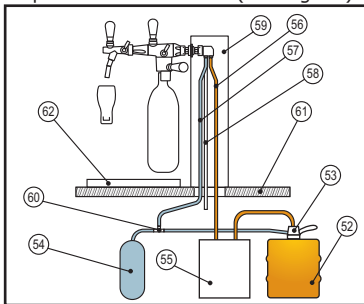
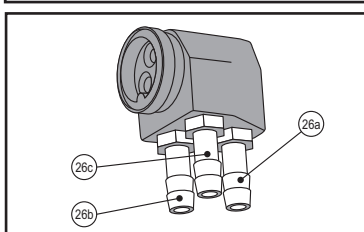

Fig.1a Equipment required for the PEGAS NovoTap installation
Fig.1b Tee adapter for connecting hoses to the PEGAS NovoTap
Before mounting the device to a beer tower it is necessary to check whether hoses can be freely connected to nipples (26) of tee adapter (44) provided that the tee adapter is located strictly vertically and looks downwards (hoses shall be connected from below). If the hoses can not be freely connected, it is necessary to replace the tee adapter with a different one (meant for side/rear connection of hoses). A drip tray (62) shall be provided on the table. (See Fig. 1a).
The following equipment is required for the device connection (See Fig. 1a):
The device shall be assembled, installed and connected as follows (numbers are given as per Assembling diagram Fig. 1a, Fig. 1b):
1) Put hoses for beer supply (56), CO₂ supply (57) and drainage (58) inside a beer tower as shown in Fig. 1a; **(photo 01)**